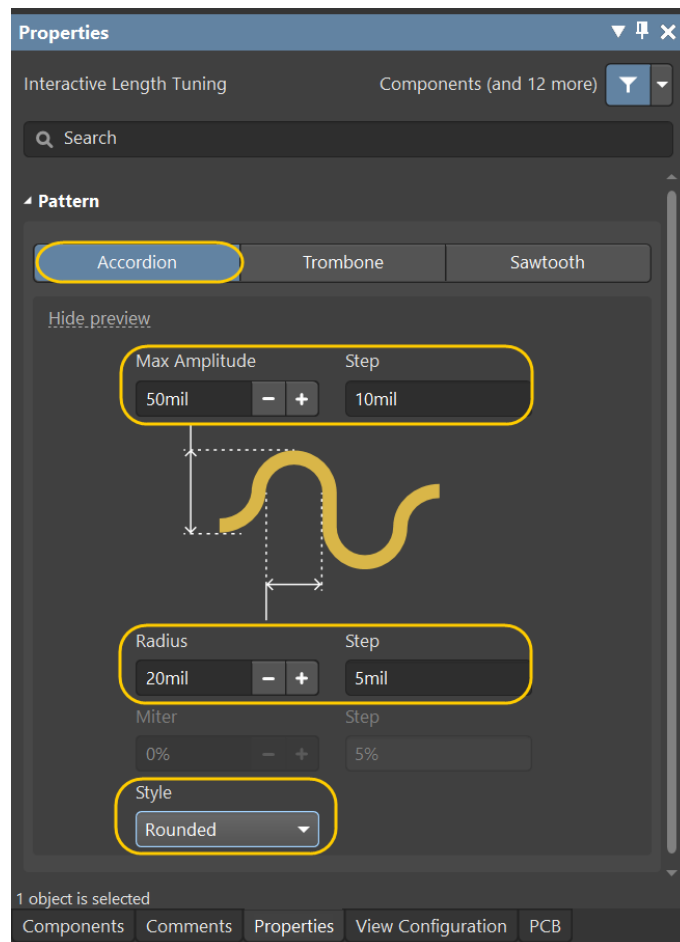

Figure 17. Accordion parameter for first length tuning
38. Use Figure 17 and the instructions below to change the following values for the Length Tuning properties: